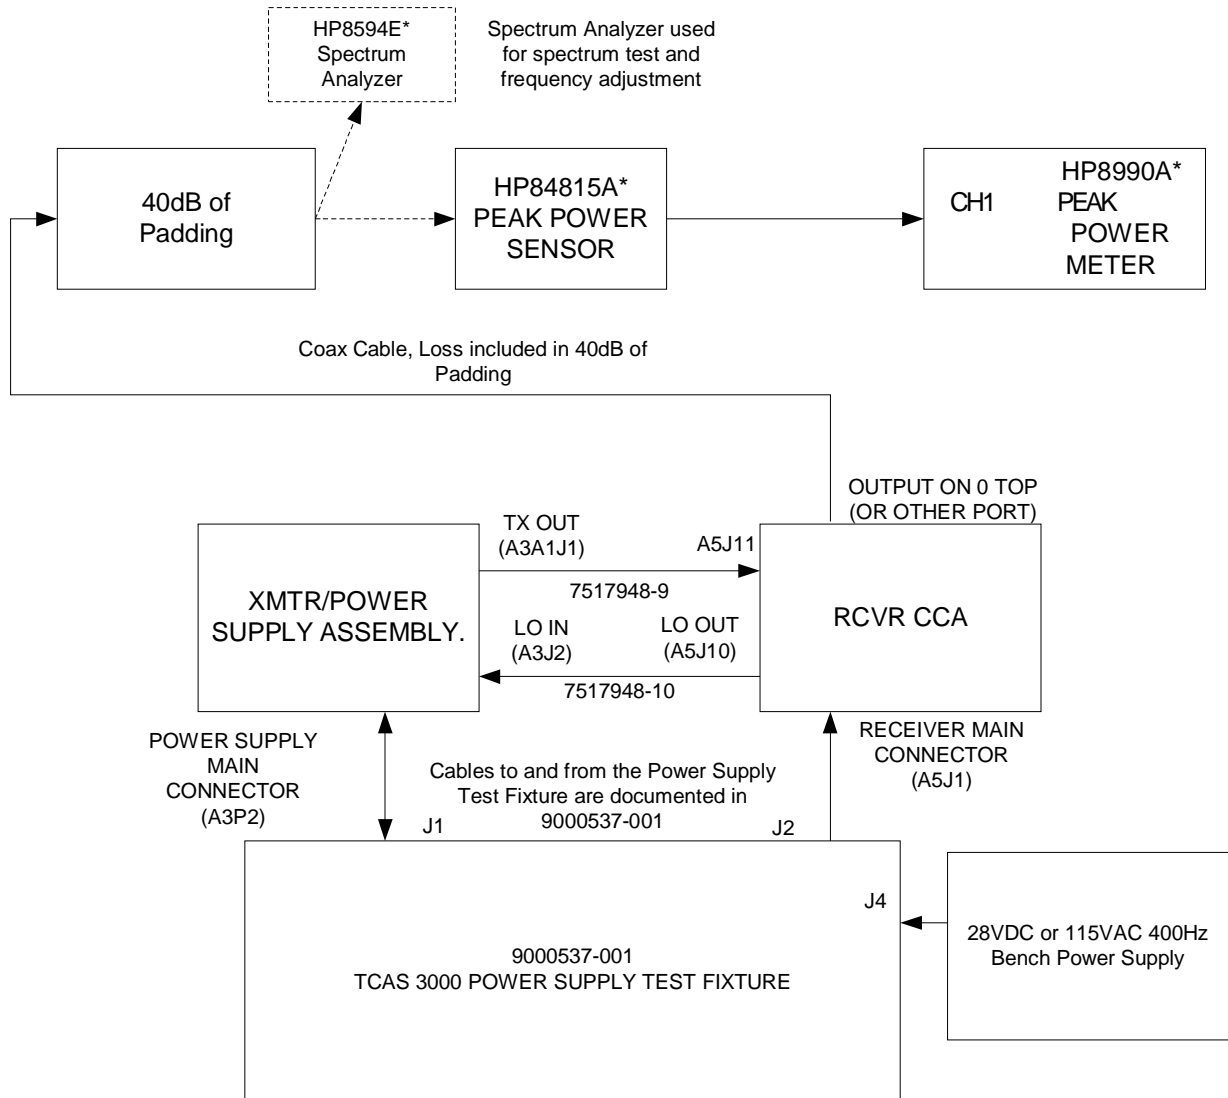

Figure B-007
1. Connect the Power Supply and Transmitter Pair to the TCAS 3000 Power Supply Test Fixture as shown in Figure B-007.